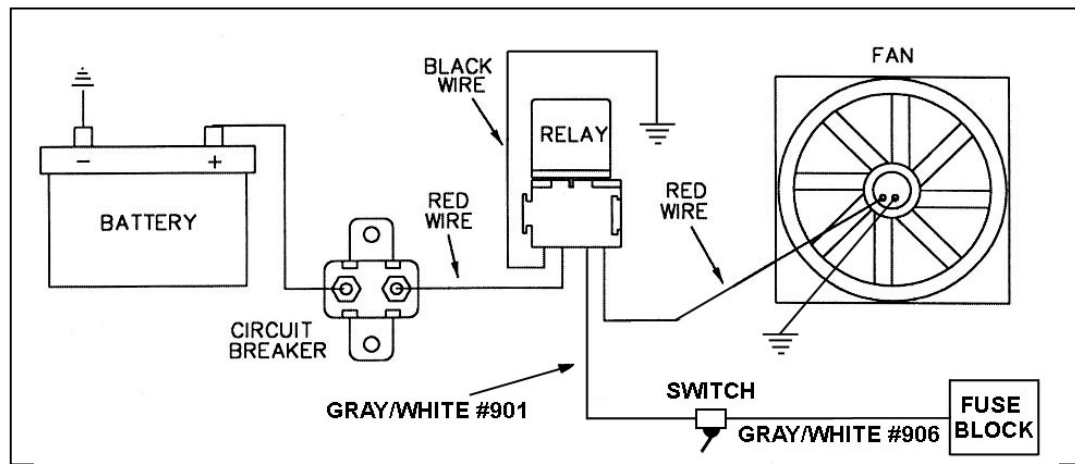

Figure 10-4A Typical Fan Relay Installation (**Fan Relay Kit – Painless Part #30101**)
- 10.5.4** Connect HEADLIGHT SECTION A wire #901 (gry/wht) to the Electric Fan Relay. This wire is an activation wire for the relay, **NOT A POWER FEED**. The other end of wire #901 is in the ACCESSORY SECTION SWITCHES and should be connected to the electric fan switch in the dash. **Figure 10-4A** shows a typical fan relay installation.